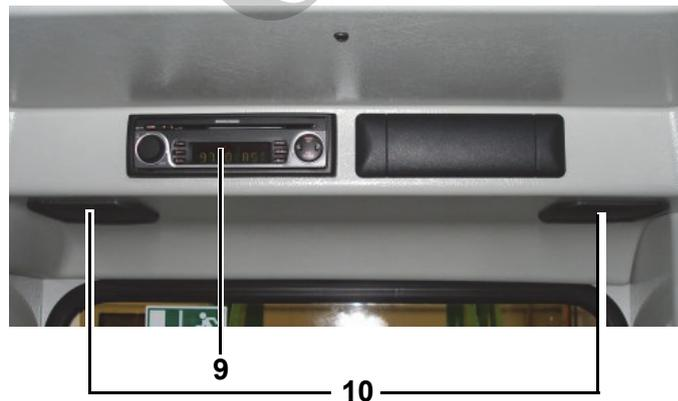

Fig. 53 Radio
The radio (9) in Fig. 53 and speakers (10) in Fig. 53 are located behind the driver seat below the cab roof.